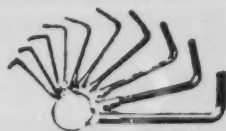

Figure 1-54. Set of Allen Wrenches
- g) Figure 1-54 shows a typical set of Allen, or hexagon, wrenches.